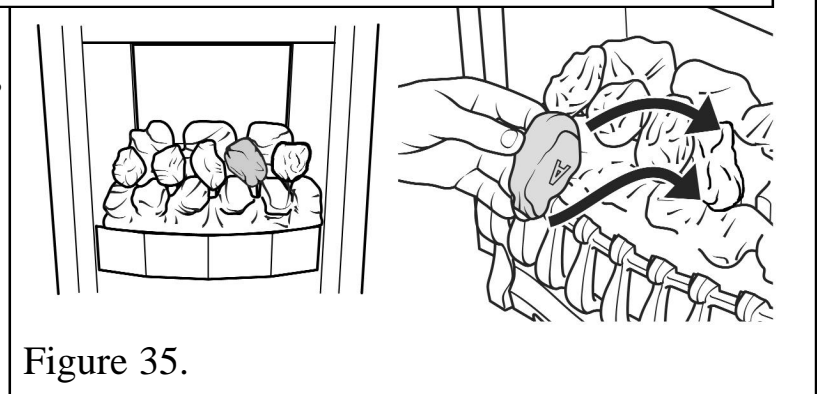

Figure 35.
7. Place the remaining type “A” coal between the front and rear base coals. The letter “A” should be upside down with its rear face between the right and centre coals of the rear base coal. Angle the coal so that the gap between it and the type “B” coal to its right is appreciably larger than the gap between it and the type “A” coal to its left but do not have it touching the type “A” coal. This will give the best flame effect (See figure 35).